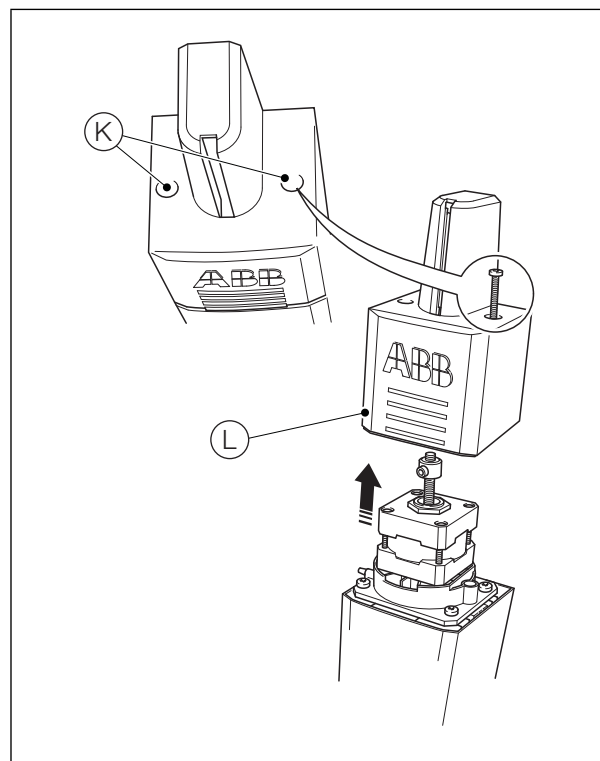

Fig. 13.12 Removing the Measurement Cell Top Cover
5. Referring to Fig. 13.12, remove the two screws (K) and remove the measurement cell top cover (L).
11. Referring to Fig. 13.12, refit the measurement cell top cover (L) and secure with the two screws (K).